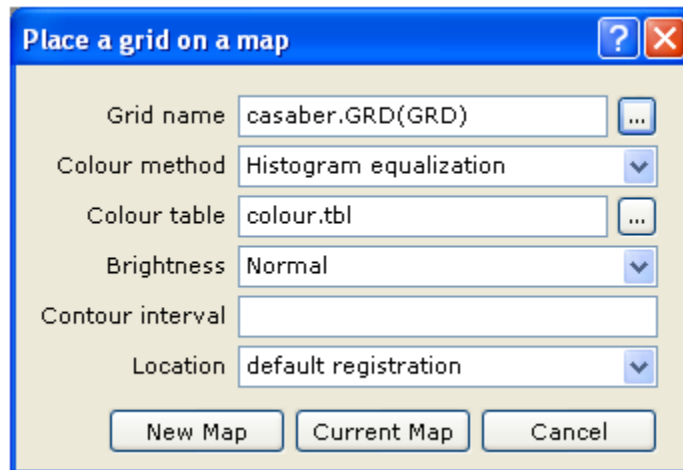

Figure 1.83. – Adding a grid on a map
1. On the *Grid and Image* menu, select *Display* and then click *Single Grid*. The *Place a grid on a map* dialog is displayed, fig. 1.83.